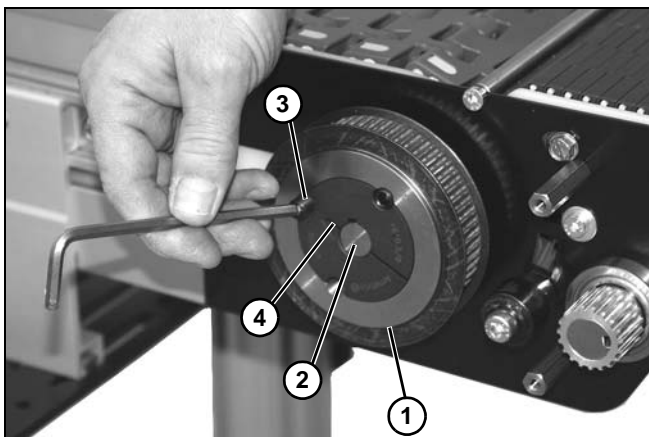

Figure 146
14. Install pulley (**Figure 146, item 1**) until it is flush with driveshaft (**Figure 146, item 2**).
15. Remove set screw (**Figure 146, item 3**) from hole aligned with slot (**Figure 146, item 4**).